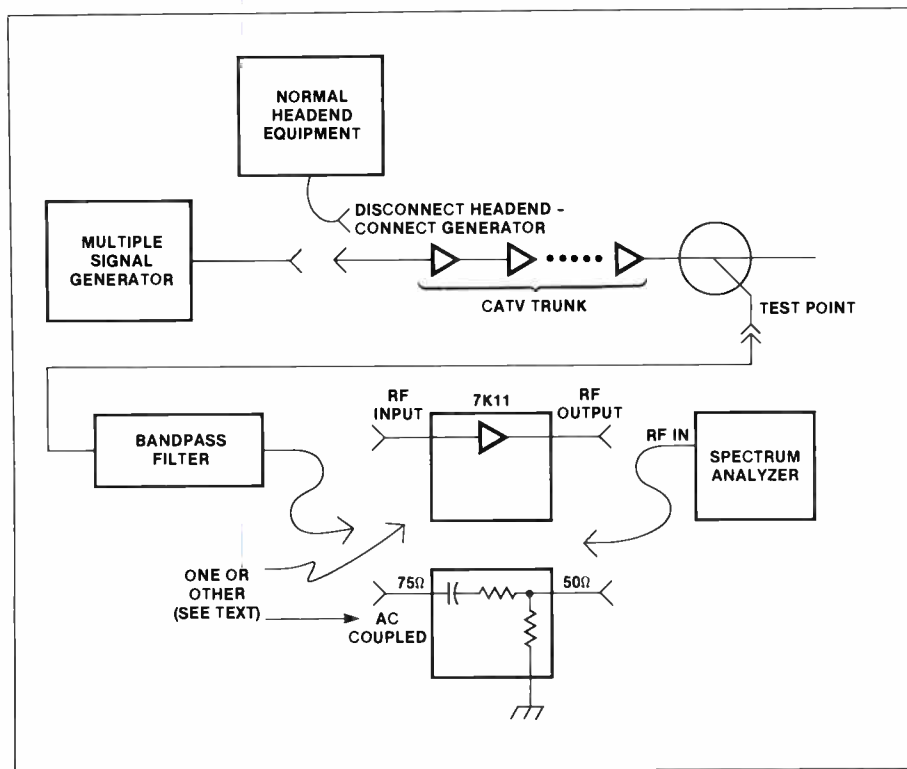

Figure 4-1 Equipment connection for composite triple-beat measurement
2. Connect the test equipment shown in figure 4-1 at the test point in the distribution system. The bandpass filter must pass the picture carrier of the channel to be tested. Channel 11 is normally used for this measurement. The 7K11 preamplifier is unnecessary when a tap level of +20 dBm or greater is available.